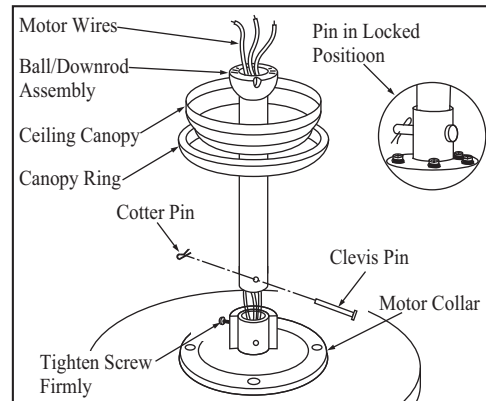

Figure 7
3. Route wires exiting from the top of the fan motor through the canopy ring. Make sure the slot openings are on top. Route the wires through the canopy and then through the ball/downrod assembly (Figure. 7).
5. Align the holes at the bottom of the downrod with the holes in the coupling on top of the motor housing (Figure 7). Carefully insert the clevis pin through the holes in the collar and downrod. Be careful not to jam the clevis pin against the wiring inside the downrod. Insert the cotter pin through the hole near the end of the clevis pin until it snaps into its locked position, as noted in the circle inset of Fig. 7.
6. Tighten two set screws on top of the fan motor firmly. (Figure 7)